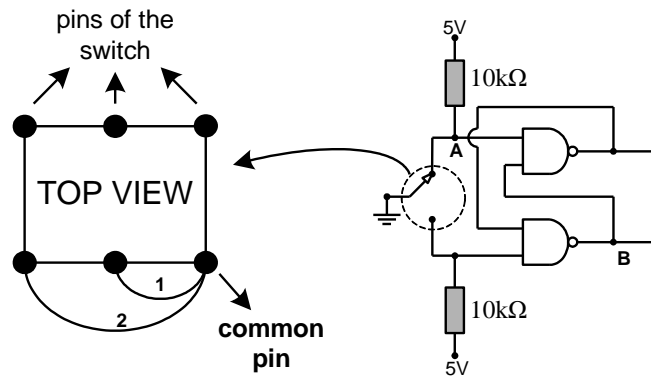

Figure 7-4. The schematic of a debounce circuit and the connections of the switch.
- Construct the debounce circuit given in Figure 7-4. Connect node A to channel A1 and node B to channel A2 of the scope. Choose normal triggering from trigger mode, set the triggering level to 1V and the triggering edge to rising edge. Press the "single" key. Operate the switch and observe the waveforms on the scope. Comment on the result.